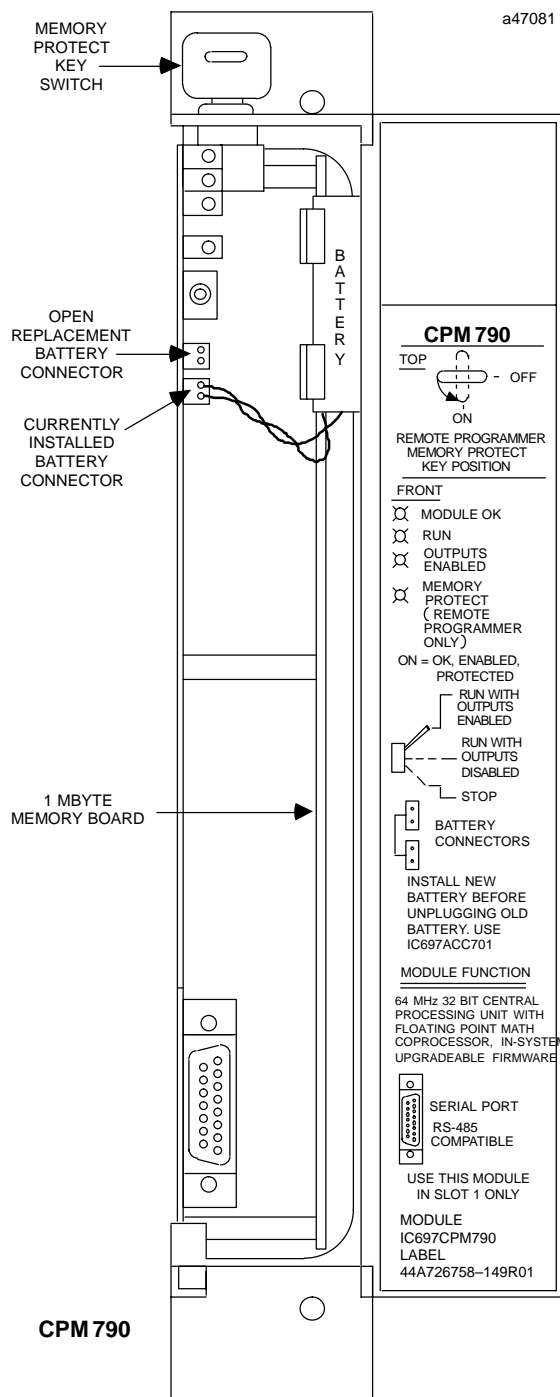

Figure 2. CPM 790 - Location of Major Features
- Connect the battery to either of the battery connectors on the module (see Figure 2).
A lithium battery (IC697ACC701) is installed as shown in Figure 2. This battery maintains program and data memory when power is removed and operates the calendar clock. Be sure to install the new battery before removing the old battery. If during power-up diagnostics a low battery is detected, the *MODULE OK* LED (top LED) will not stay on. Specific indication of a low battery state is detailed in Reference 2.